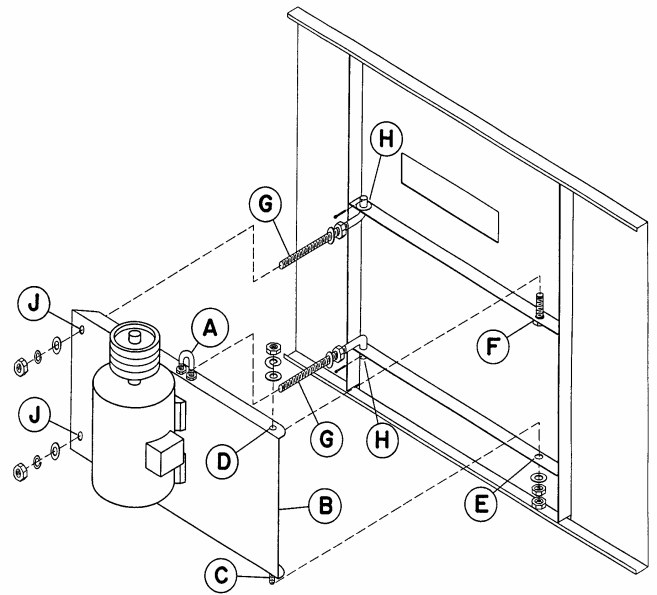

Figure 23 - External Motor Installation
1. Study Figure 23 before installing the motor base on the unit.